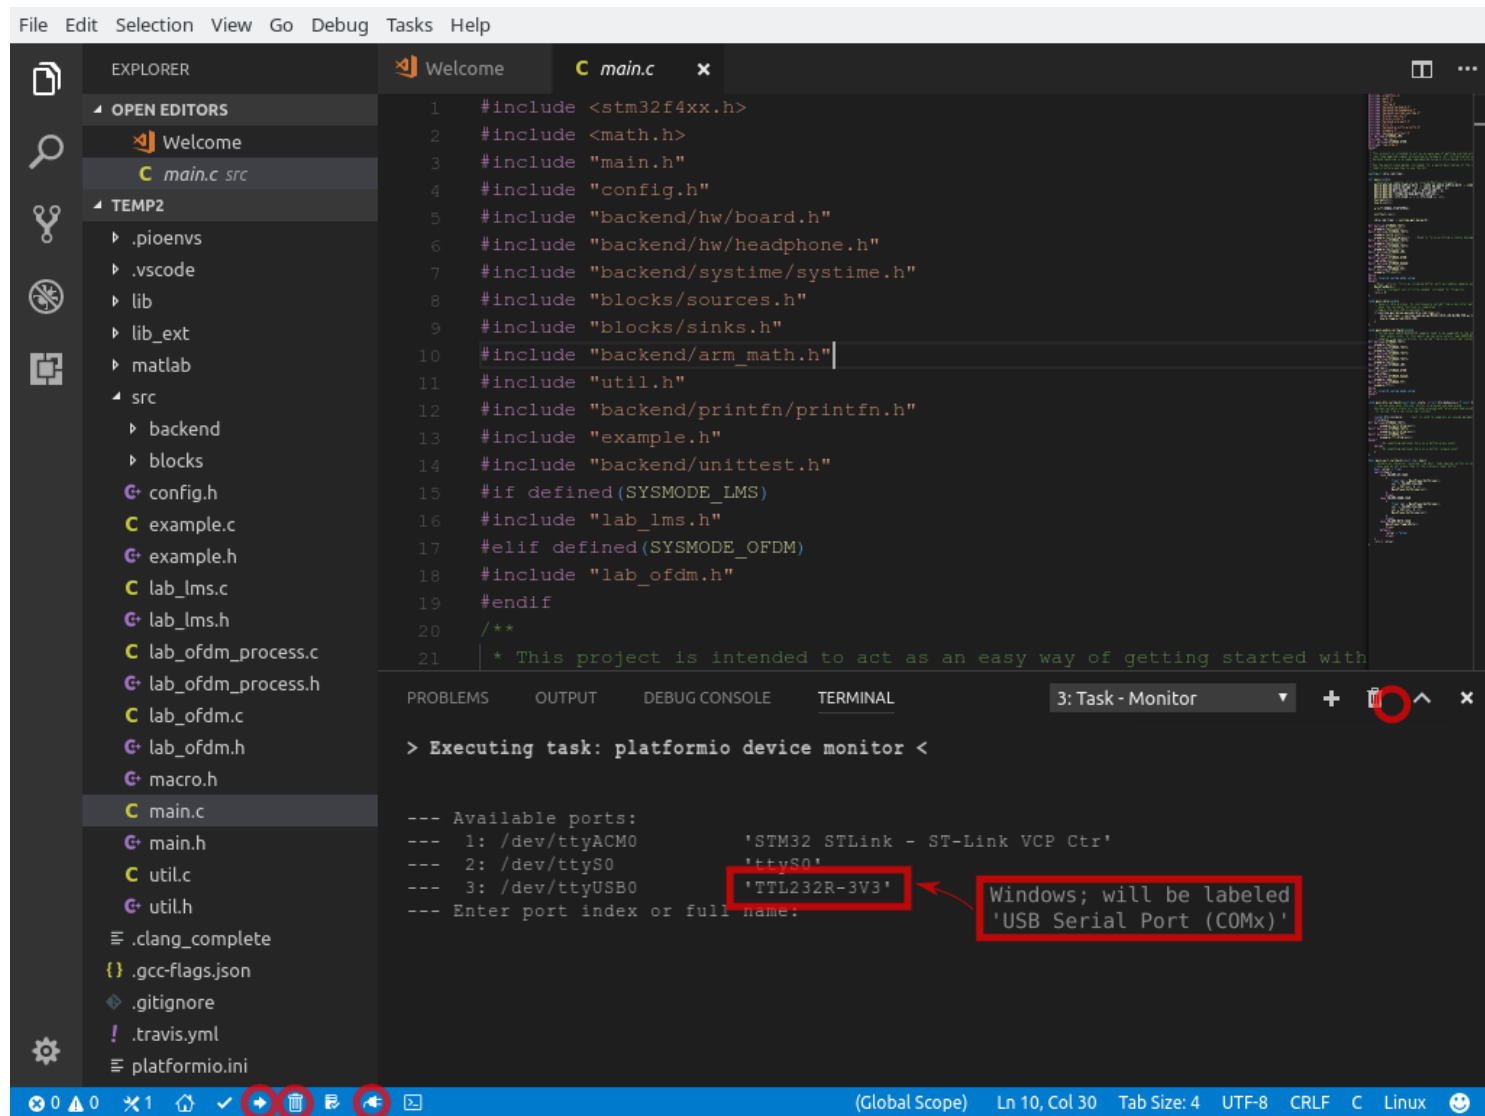

Figure 2: VSCode IDE.
3. The lower bar in VSCode should now contain the icons circled in Figure 2. If not, either the PlatformIO extension has not been completely installed or you have not opened the correct folder.
6. Open the serial monitor (the rightmost circled icon in Figure 2), select the correct serial device (labeled `'TTL232R-3V3'` (Linux/Mac) or `'Usb Serial Port (COMx)'` (Windows)), and maximize the serial monitor window.